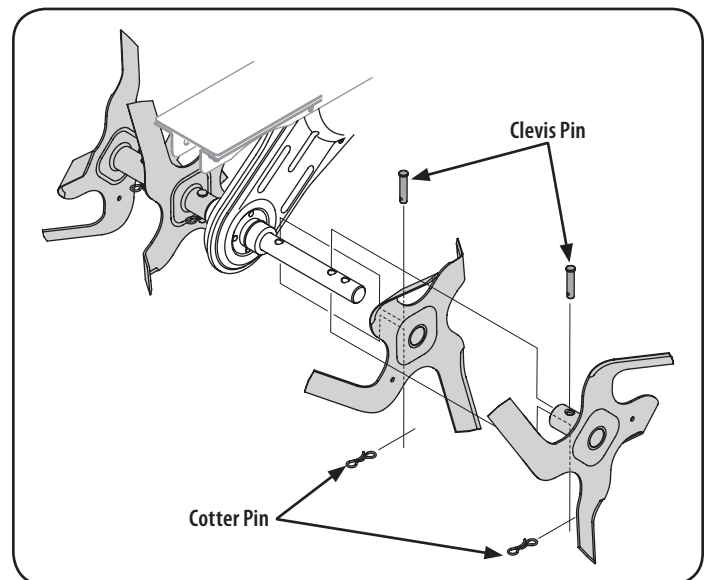

Figure 29
2. To remove a tine assembly, simply remove the cotter pin securing the clevis pin for each tine. See Figure 29.